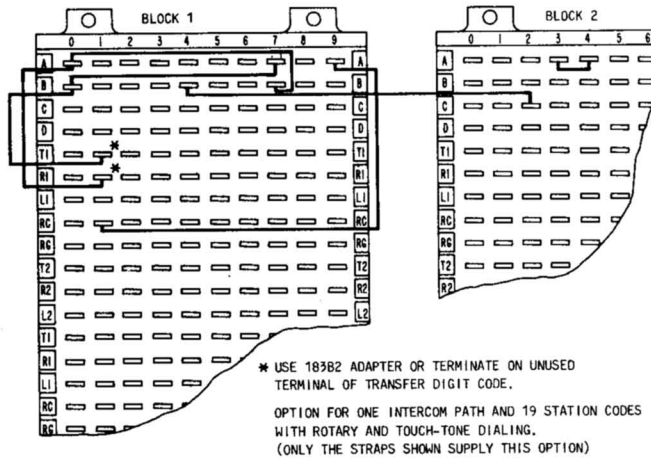

Fig. 11—N Option
- 4.08** The N option (Fig. 11) provides for one intercom path with 19 station codes. Stations can utilize both rotary and TOUCH-TONE dialing. Digit 1 is used as the transfer digit and is not available for a station code. Station codes 10 through 19 are connected to row C, terminals 0 through 9 on block 1 of the 626A panel (Fig. 4). Option G must be used with the N option to provide audible signaling.